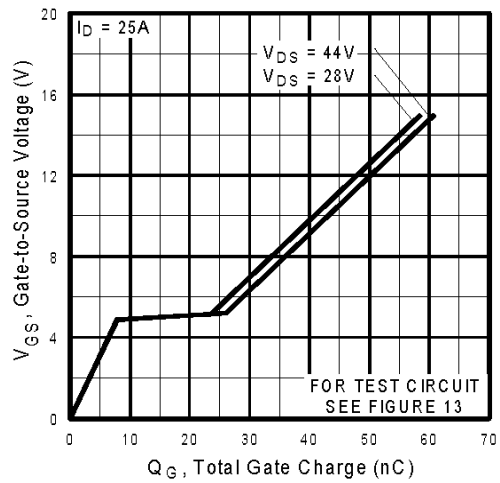

Fig 6. Typical Gate Charge Vs. Gate-to-Source Voltage
| Q_{gd} | Gate-to-Drain ("Miller") Charge | — | — | 27 | | $V_{GS} = 10V$, See Fig. 6 and 13 ④ ⑦ |